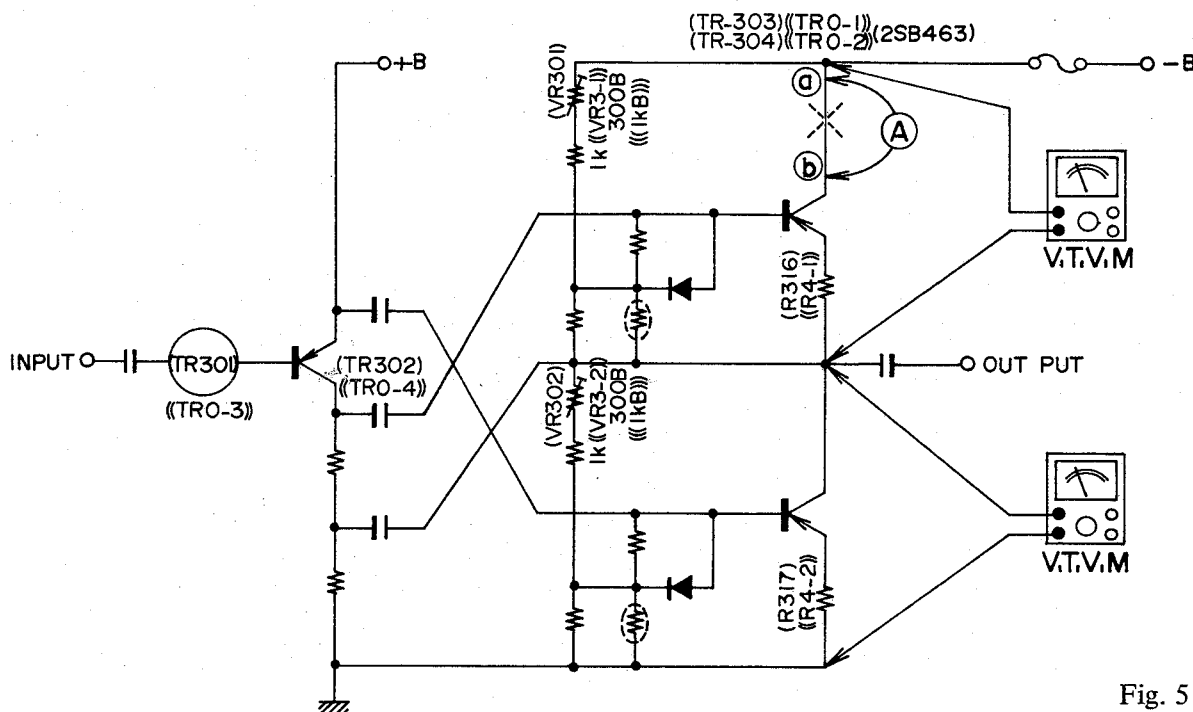

Fig. 5
4. ADJUSTMENT OF D.C. COLLECTOR CURRENT FOR POWER TRANSISTORS 2SB463 WITH NO INPUT SIGNAL (See Fig. 5)